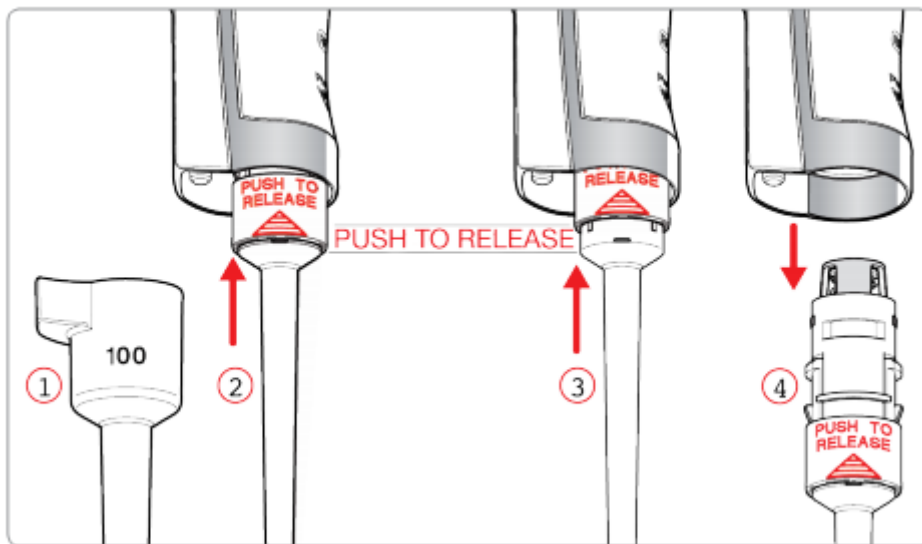

Figure 2: Removing the Lower Part
- 8.1. **Clean the pipette** (See Figure 2.)
- 8.1.3. Remove the ejector sleeve by holding down the ejection button and pulling on the ejector sleeve (Figure 2: Step 1).
approximately 5mm until the lower part is released (Figure 2: Step 2 & 3).
- 8.1.5. The lower part is then removed from the upper part (Figure 2: Step 4).